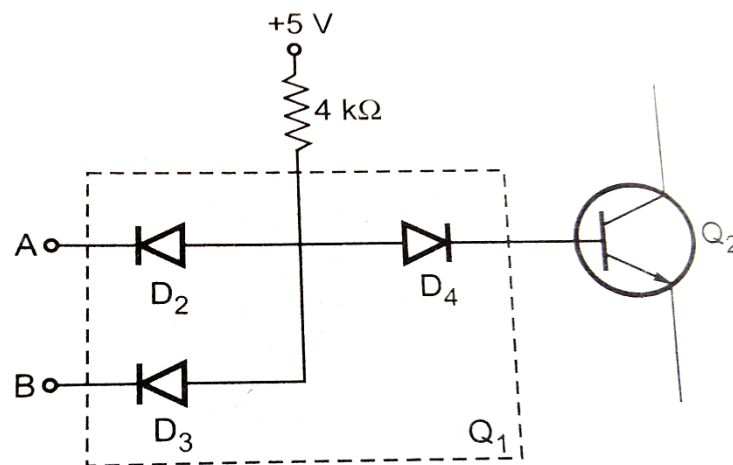

Figure 1.11: Diode equivalent for Q1.
- Although this circuit looks complex, we can simplify its analysis using the diode equivalent of the multiple-emitter transistor Q1, as shown in figure 1.11.